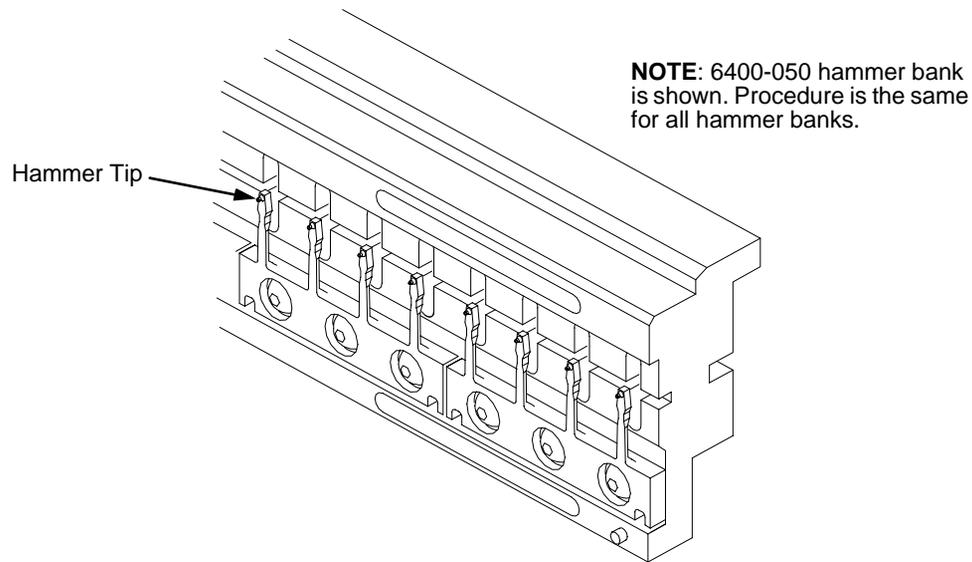

Figure 69. Cleaning the Hammer Tips
8. Using a stiff, non-metallic brush (such as a toothbrush), gently brush the hammer tips to remove lint and ink accumulations. (See Figure 69.) Vacuum up any residue.